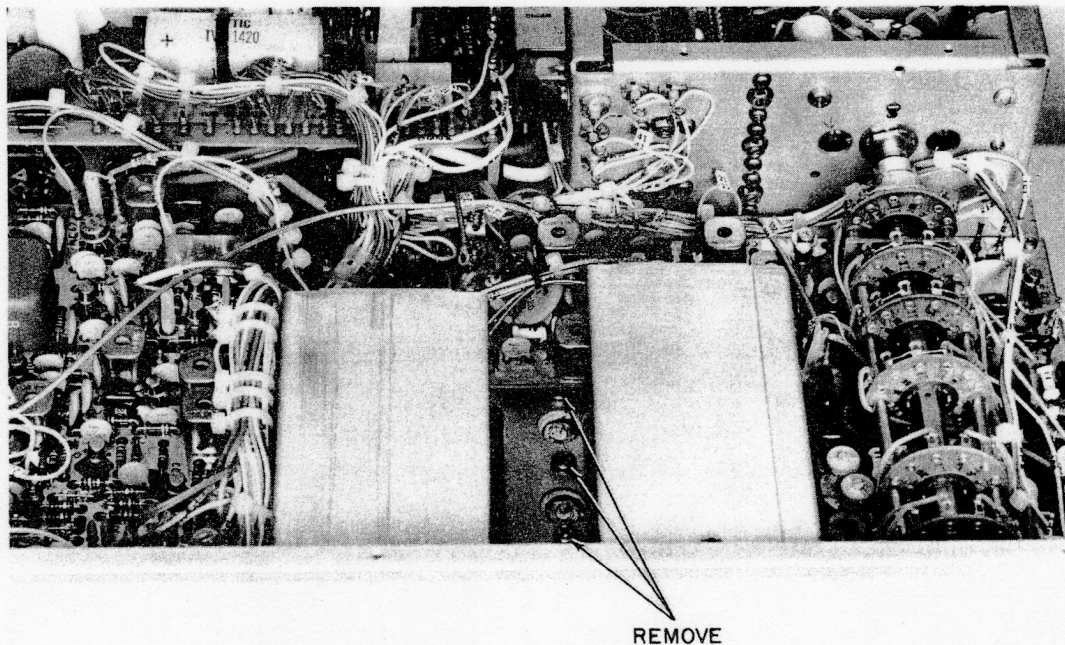

Figure 4-19. Location of Screws Retaining Bottom of RF Driver Board
3. Remove the three Phillips-head screws and washers on the opposite side of the chassis (located between the two PTO modules, nearest PTO A. See Figure 4-19). Note that one of the screws is located under the Front End board near L4. It is necessary to partially remove or lift the Front End board to reach this screw.
Charged capacitors may cause high voltage to exist within the power amplifier assembly, even with the Model CX7 removed from the power source. Momentarily short the tube block (see Figure 4-19) to ground using a metal screwdriver with an insulated handle.